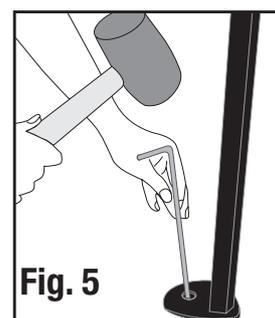

Fig. 5
- Secure shelter by driving stakes through the holes in the base of each frame post. (Fig. 5)
- Remove stakes and guylines. (Fig. 5 and 6)